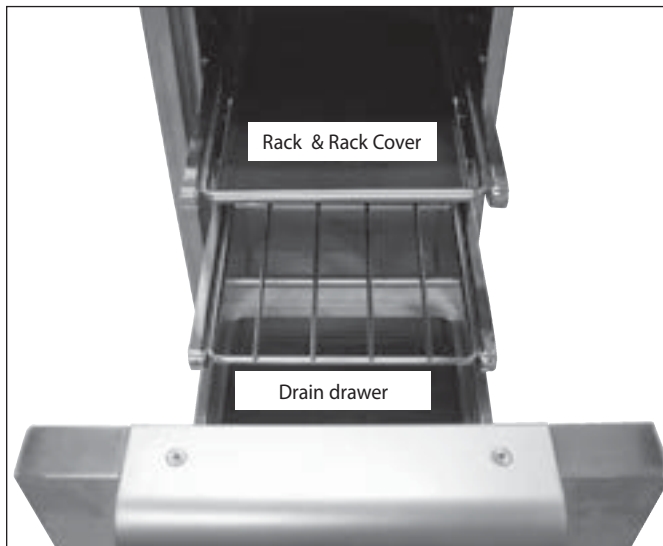

Fig. 64
5. Install the two (2) racks provided into the opening by sliding them onto the rollers on the sidewalls of the left cavity (Fig. 64).